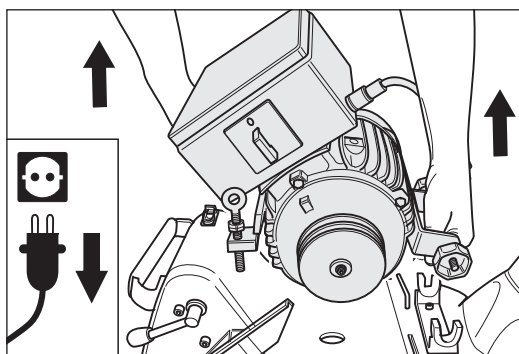

Fig. 52 Remove the motor from the machine housing.
- 9 Remove the motor from the machine housing (Fig. 52) and secure it during transport against slipping and damage!